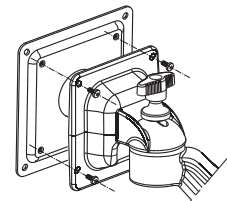

Fig. 4
5. For VESA 100mm model, screw the 100mm plate to the hanging bracket with M4 screws as shown in Fig. 4.